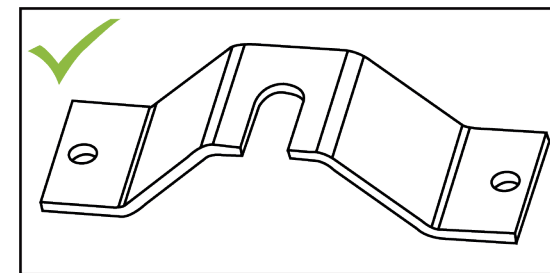

Fig 6.1
7. Offer up 2 foot brackets (figure 6.1) to the front feet and fix securely to the floor. Adjust and level the four support feet.